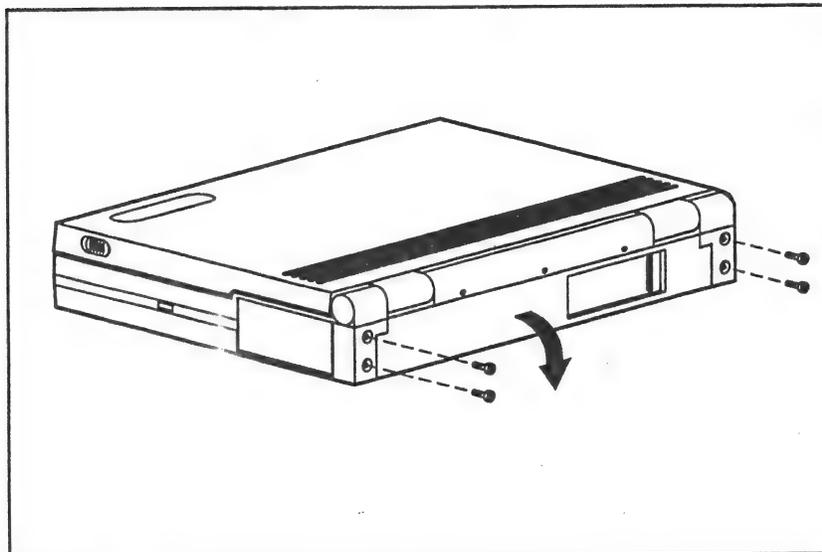

Figure 2-29. Removing the Rear Connector Cover
- Using a Torx T-8 screwdriver, remove the four screws that secure the display clutches (Figure 2-29).